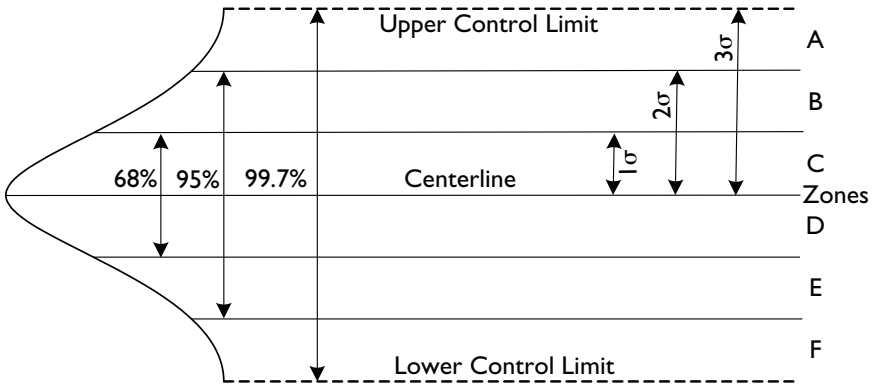

Figure 8-3. Control chart showing zones for interpreting Western Electric rules
- Two of three consecutive points are more than 2 sigma away from the center line, on the same side (in zones A or F, Figure 8-3).
center line, on the same side (in either zones B or E, Figure 8-3).